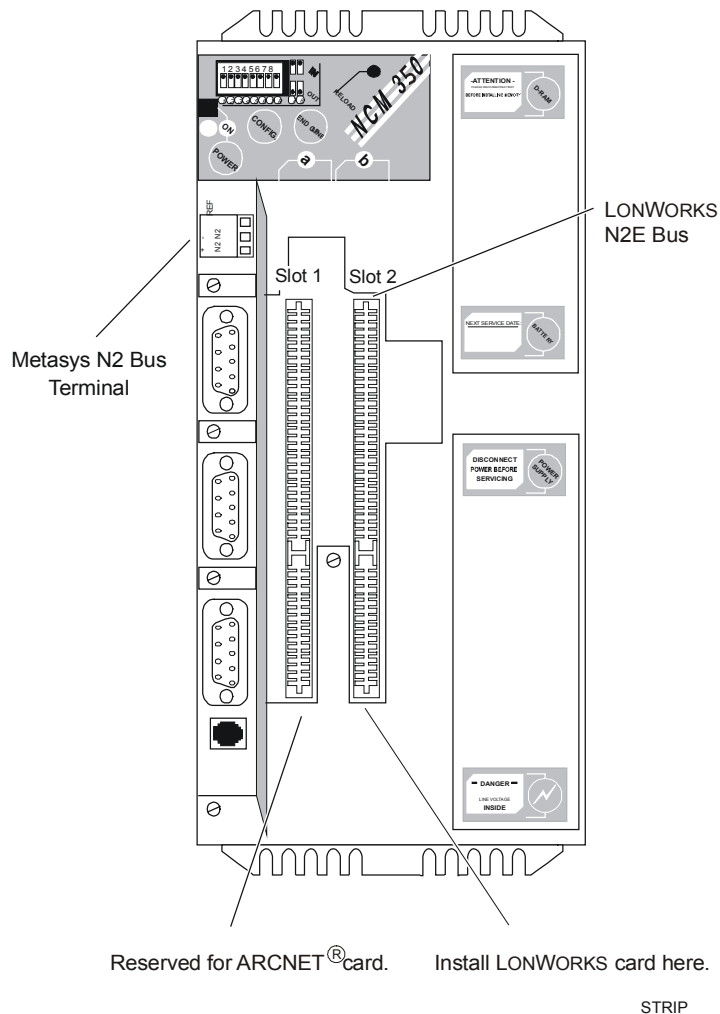

Figure 9: LONWORKS Card Installs into Slot 2 of NCM350/361
3. Install the card into Slot 2 of the NCM350/361 (right-hand slot), referring to Figure 9. In order to insert the card, you must temporarily remove the colored screw plug terminal.